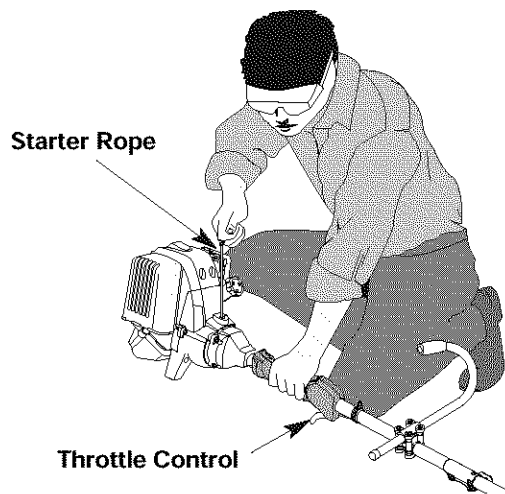

Fig. 12
**WARNING:** Avoid accidental starting. Remain in the starting position when pulling the starter rope (Fig. 12). The operator and unit must be in a stable position while starting to avoid serious personal injury.
5. With the unit in the starting position (Fig. 12), **DO NOT SQUEEZE THE THROTTLE CONTROL**. Pull the starter rope briskly 5 times. If the engine starts to run before the fifth pull, proceed to step 6. If the engine does not start, go back to step 4.
1. Release your hand from the throttle control (Fig. 12). Allow the engine to cool down by idling.